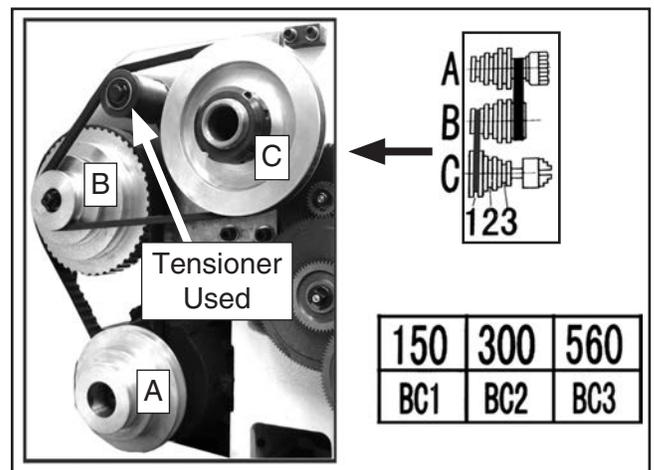

Figure 58. Positioning belt for low speed.
The 27½" belt is used on pulleys B and C (see **Figure 58**) with the tensioner for 50, 300, and 560 RPM.
4. Move the tensioner to install the 27½" belt between pulleys B and C, and in sheave 1, as shown in **Figure 58** on **Page 42**.